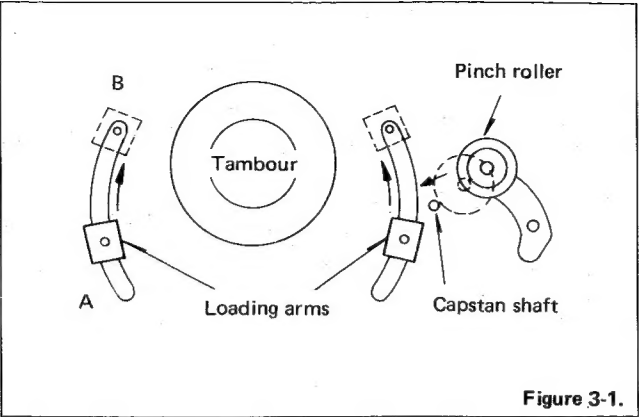

Figure 3-1.
In the VC-9300, no solenoid is used to move the pinch roller but energy of the loading motor is used. Figure 3-1 illustrates this mechanism. As the loading motor (LM) runs, a loading arm moves from point A (where unloading was completed) to point B. As LM runs even after the loading arm has reached point B, the pinch roller moves to the capstan shaft.